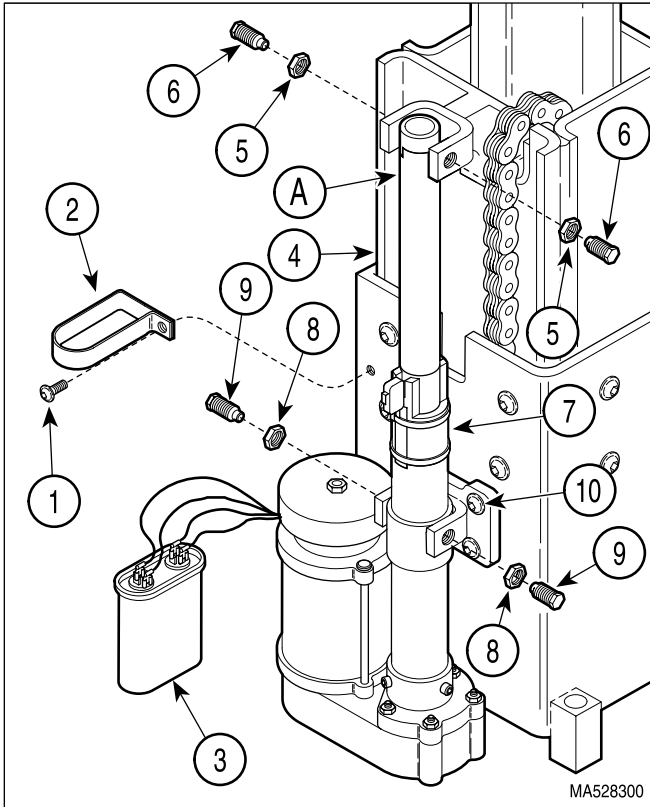

Figure 4-22. Base Actuator Removal / Installation
(13) Cut cable tie (B) securing wire harness (10) to base actuator limit switch (11); then disconnect wire harness from terminals of base actuator limit switch.
(14) Remove screw (1, Figure 4-22), capacitor strap (2), and base capacitor (3) from column assembly (4). Set base capacitor aside.
(16) Loosen two jam nuts (5).
- (2) Remove jam nuts (5 and 8, Figure 4-22) from pivot screws (6 and 9).
- (3) Clean adhesive residue from threads of pivot screws (6 and 9).
- (4) Screw jam nuts (5 and 8) on pivot screws (6 and 9) fully.
- (5) Coat the threads of two pivot screws (9), which are located directly in front of jam nuts (8), with permanent threadlocking adhesive (Loctite 262).
- (11) Run BASE UP or BASE DOWN function until shaft (A, Figure 4-22) of base actuator (7) is aligned with bracket of column assembly (4).
- (12) Coat the threads of two pivot screws (6), which are located directly in front of jam nuts (5), with permanent threadlocking adhesive (Loctite 262).